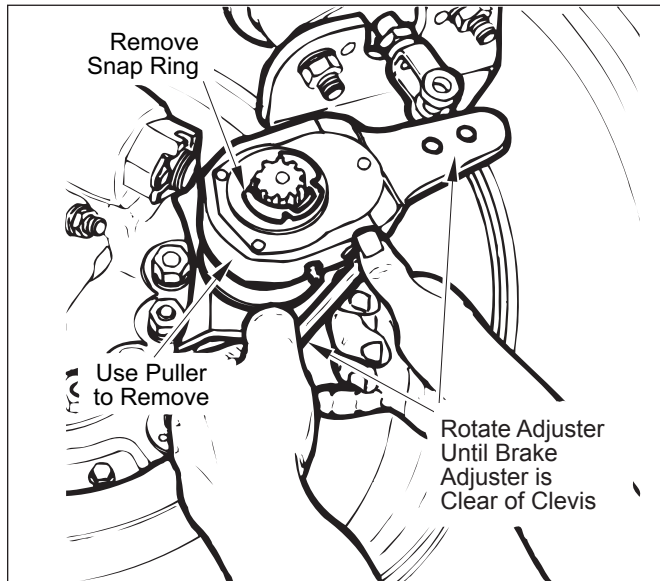

Figure 31. Brake Adjuster Removal
2. While depressing locking sleeve, turn adjuster nut until brake adjuster is clear of air chamber pushrod clevis. Refer to Figure 31.